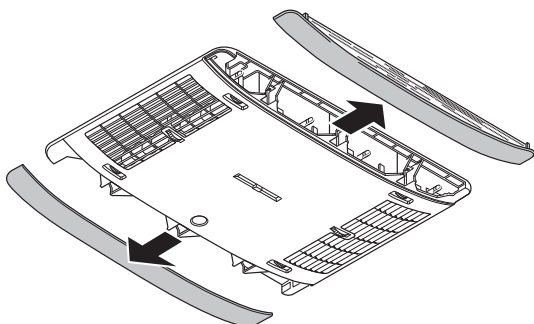

Fig. 38
- Remove both panels on the side of the air distributor (Fig. 38).